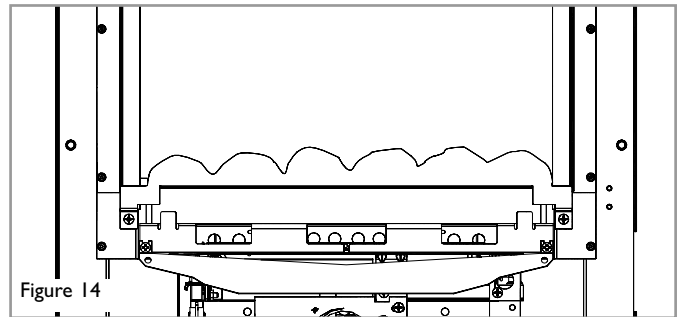

Figure 14
**Front coal piece (dependent on model) :** Now fit the decorative front coal piece. This is intended to sit flush in front of the glass panel in order to complete the realistic coal fuel effect. Attach the strip using two M4 screws in the positions shown in figure 14. Take care not to damage the ceramic part of the component.